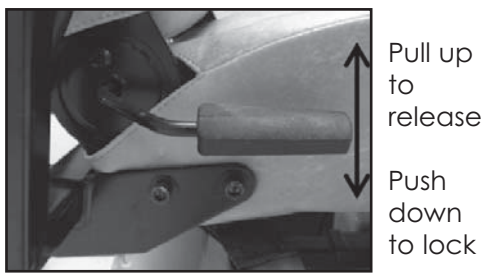

Figure 5D
3. **If your recline lever looks like FIGURE 5D** – PULL UP on the lever to release the latch. With the assistance of a caregiver, position the seatback in a comfortable position. PUSH DOWN on the lever to lock the seatback in position.